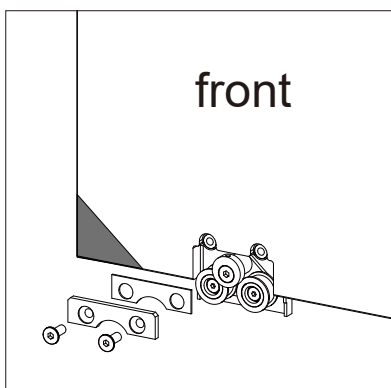
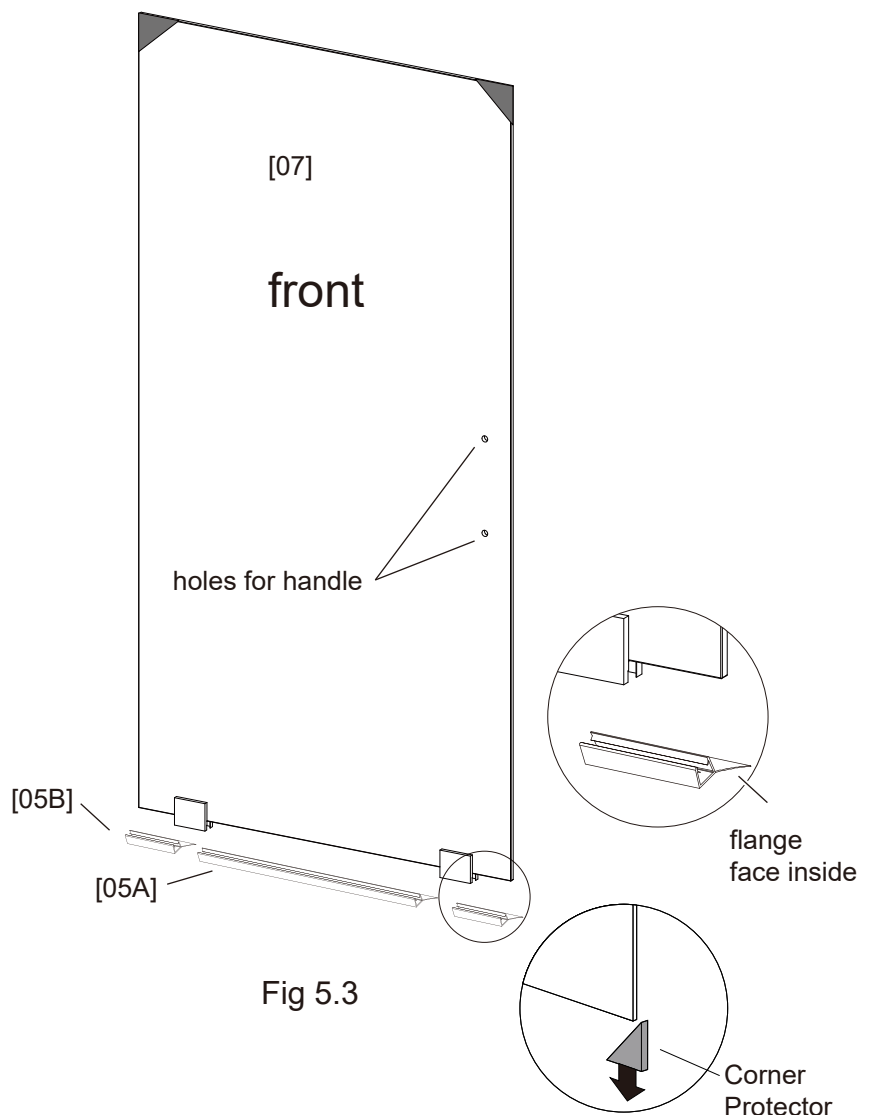

Fig 5.2
Fig 5.3
2. Install the **Rollers [02]** from the back of the **Door [07]**. (Fig 5.2, Fig 5.3)
3. Install **gaskets** and **clips** to the **Rollers [02]** from the front of **Door [07]**. Secure the **Rollers [02]** with **screws**. (Fig 5.2)
4. Remove the **Corner Protector** at the bottom of the **Door [07]**. Install **Bottom Water Sealing Strip A [05A]** and **Bottom Water Sealing Strip B [05B]** to the bottom of the **Door [07]**. (Fig 5.3)